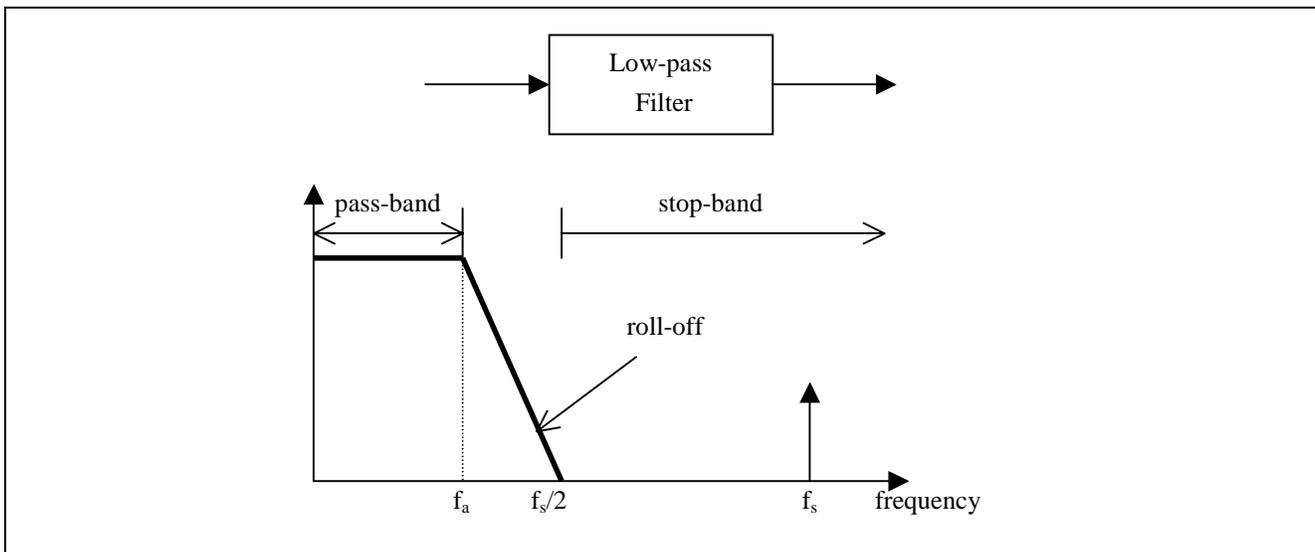

Figure 5 Low-Pass Filter
- The sampling frequency is set at $1.1f_s$ (44 kHz) to compensate for the roll-off from pass-band to stop-band (figure 5).